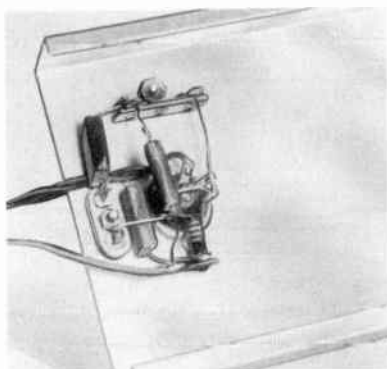
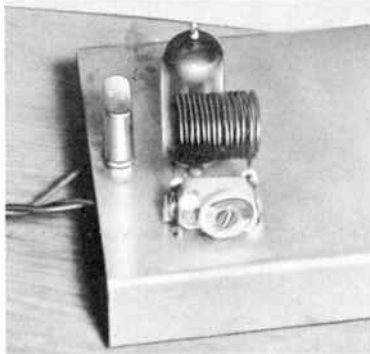

Fig. 303. *Illustration showing mounting of the crystal socket.*
Fig. 305. Positioning of crystal on top of chassis. The coil and capacitor can be seen to the right of the crystal.
2. Connect a 10-inch length of flexible, insulated wire to pin 4. (Twist these two wires together and run out to the left of the chassis as shown in Fig. 303). These wires will connect to our filament A battery. Either lead may connect to either terminal.
11. Mount this coil onto the 2-terminal tie strip on top of the chassis. Let the two ends of the coil protrude through the solder lugs at least $\frac{1}{4}$ inch. See Fig. 305.
13. Connect the left terminal of the upper terminal strip, Fig. 303, to the left terminal of the strip in Fig. 305 with a short piece of insulated wire. Solder both connections.
14. Connect the right terminal of the upper strip, Fig. 303, to the right terminal of Fig. 305 with a short piece of bare wire. The wire will pass through the large hole in the chassis. It must *not* touch the chassis. Solder both connections.
6. Try another crystal. The position of the crystal on the top of the chassis is shown in Fig. 305.